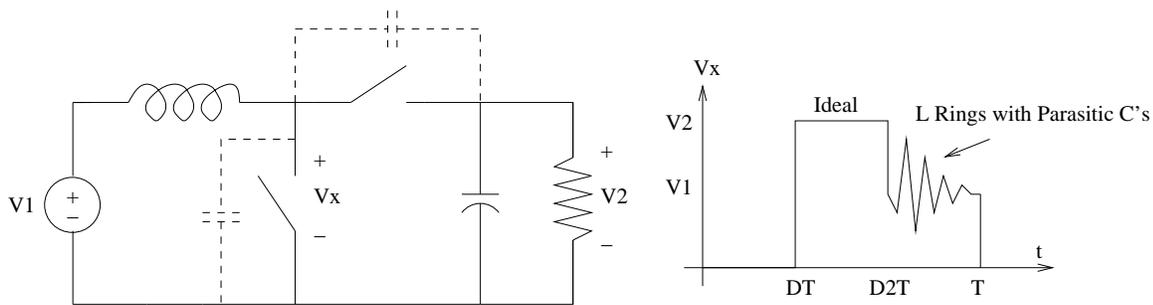

Figure 5.32: Parasitic Ringing
- Also, we get parasitic ringing in both switches (see Figure 5.32).